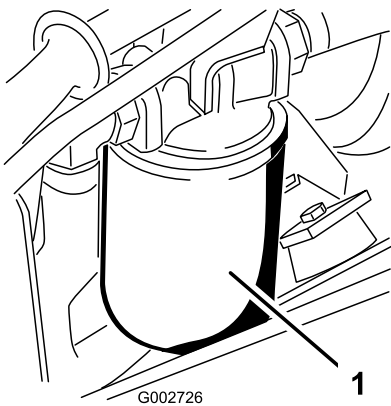

Figure 39
3. Place a drain pan under the hydraulic oil filter which is located on the left side of the machine (Figure 39).